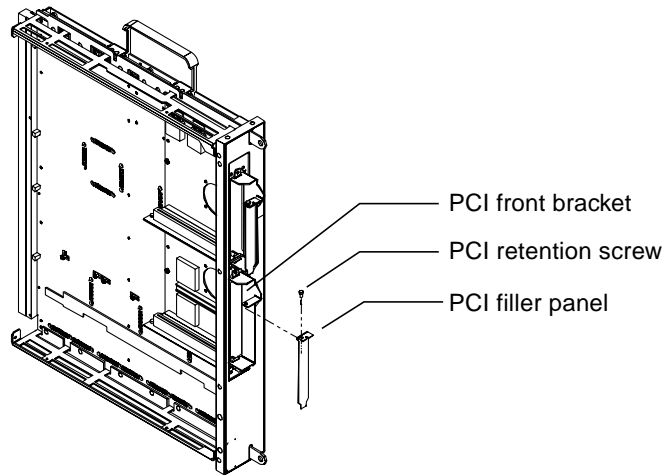

FIGURE 9 PCI Filler Panel Installation
- 2. If the PCI card is not immediately installed, install a filler panel (part number 240-2391-01) to the PCI front bracket using the PCI retention screw. See FIGURE 9.**
2. If a filler panel covers the PCI slot, remove the PCI retention screw on the mating flange to remove the filler panel (FIGURE 9).